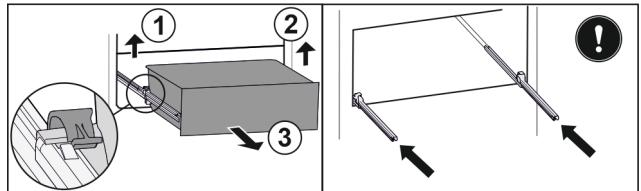

Fig. 102
- ▶ Lift left clamp and simultaneously pull drawer forwards on the left. Fig. 102 (1)
- ▶ Lift right clamp and simultaneously pull drawer forwards on the right. Fig. 102 (2)
- ▶ Remove drawer to the front. Fig. 102 (3)